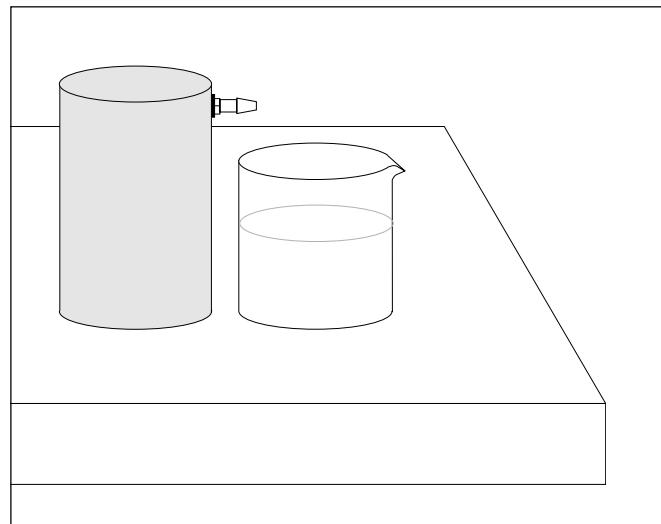

Figure 1: Overflow Setup
- Find the mass of the empty beaker and record this at the top of Table 3.1. Put the beaker under the overflow can spout as shown in Figure 1.